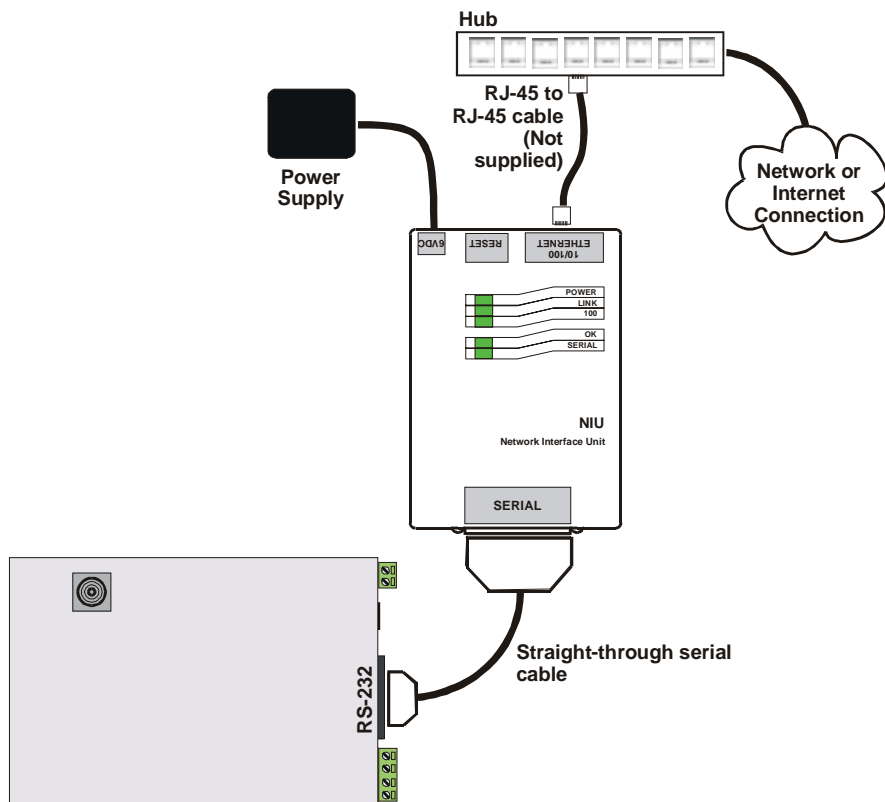

Figure 22 NIU – ActiveTag Receiver connections
- Step 1:** Using a DB-25 to DB-9 cable, plug the DB-9 connector into the RS-232 port on the Receiver. Plug the DB-25 connector into the DB-25 port on the NIU (Figure 22).